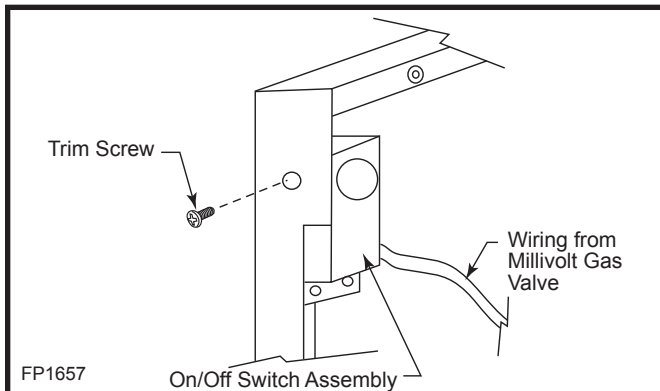

Fig. 5 Install switch between subframe and trim.
2. Slide switch assembly from the back, between sub-frame and trim, then fasten the screw. (Fig. 5)